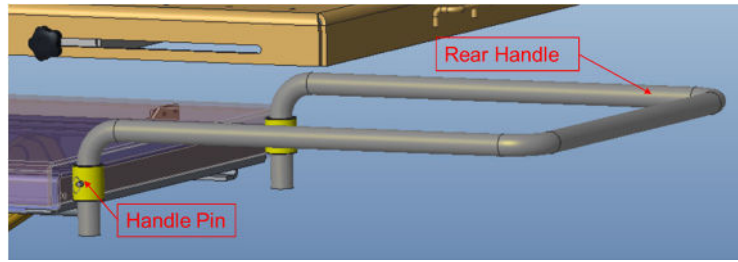

Fig.7.1.10 Rear Handle
I. Install the Rear Handle for pushing and pulling (Fig.7.1.10).